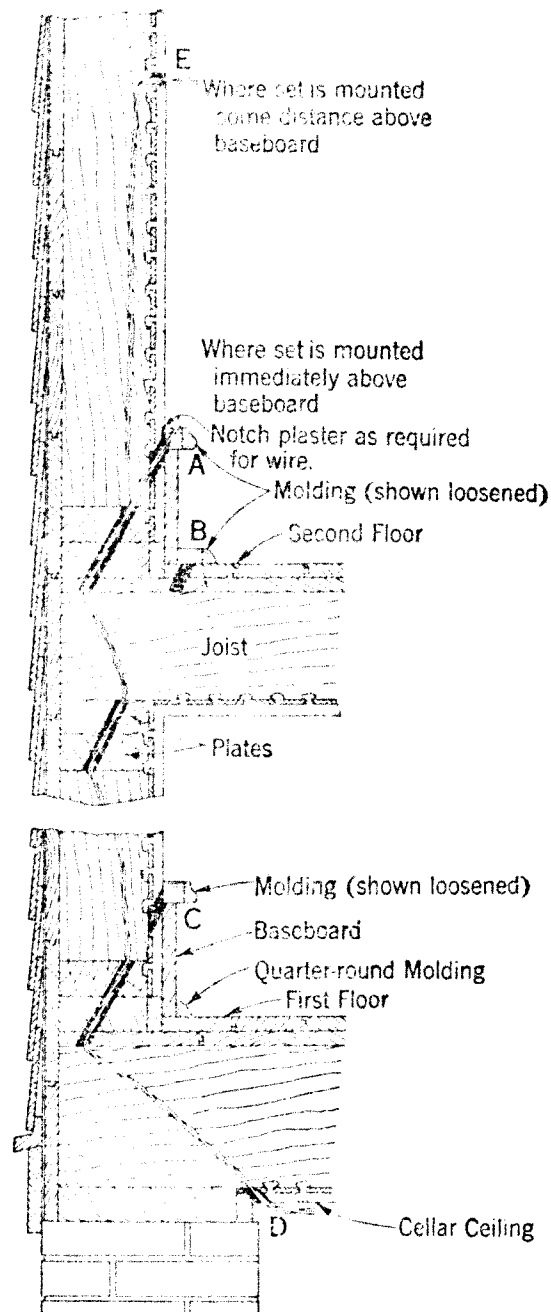

Fig. 4.
2.12 A typical example of a wall with obstructions is shown in Fig. 4.
2.13 Set Mounted Immediately Above Baseboard: Loosen molding above baseboard on second floor as outlined in paragraph 2.03 and bore $3/8$ inch hole downward through wall at point A and plates above joist, as shown in Fig. 4. (In some cases, plates are found only below joists). Loosen quarter round molding and bore $3/8$ inch hole downward through floor at point B and plates below joist. (Use $3/8$ inch x 24 inch bit.) Loosen molding above baseboard on first floor and bore $3/8$ inch hole downward through wall at point C and plates, if provided, as shown in Fig. 4. If cellar ceiling is plastered, bore hole upward through ceiling at D as shown in Fig. 4.
2.15 Set Mounted Some Distance Above Baseboard: Bore hole in wall at location of set, such as at point E of Fig. 4, and then proceed as outlined in paragraphs 2.13 and 2.14.